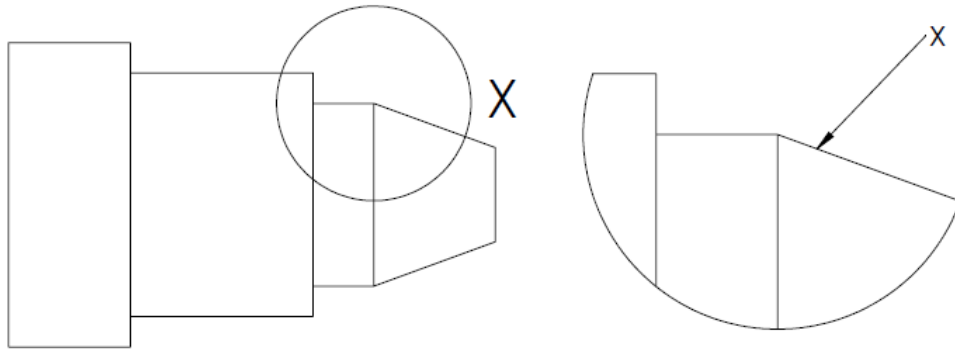

Figure 1.2
c) What is the name of the view indicated by X in the above Figure 1.2?